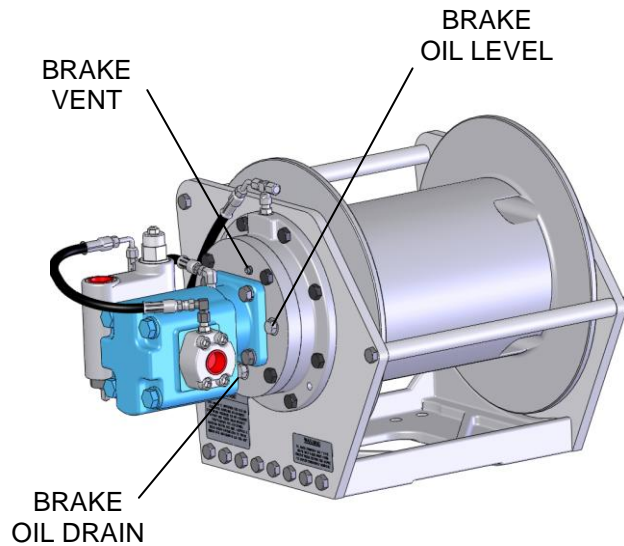

Fig. 2.1
- Brake Housing oil level inspection is achieved by removing the oil level inspection plug and visually inspecting the oil level. Maximum oil level is to the bottom of the threads of the inspection hole. This procedure is explained in detail in your Tulsa Winch Service Manual. Use only the oil recommended in the Tulsa Winch Service Manual for your hoist type. See Fig. 2.1, Oil Level Inspection.